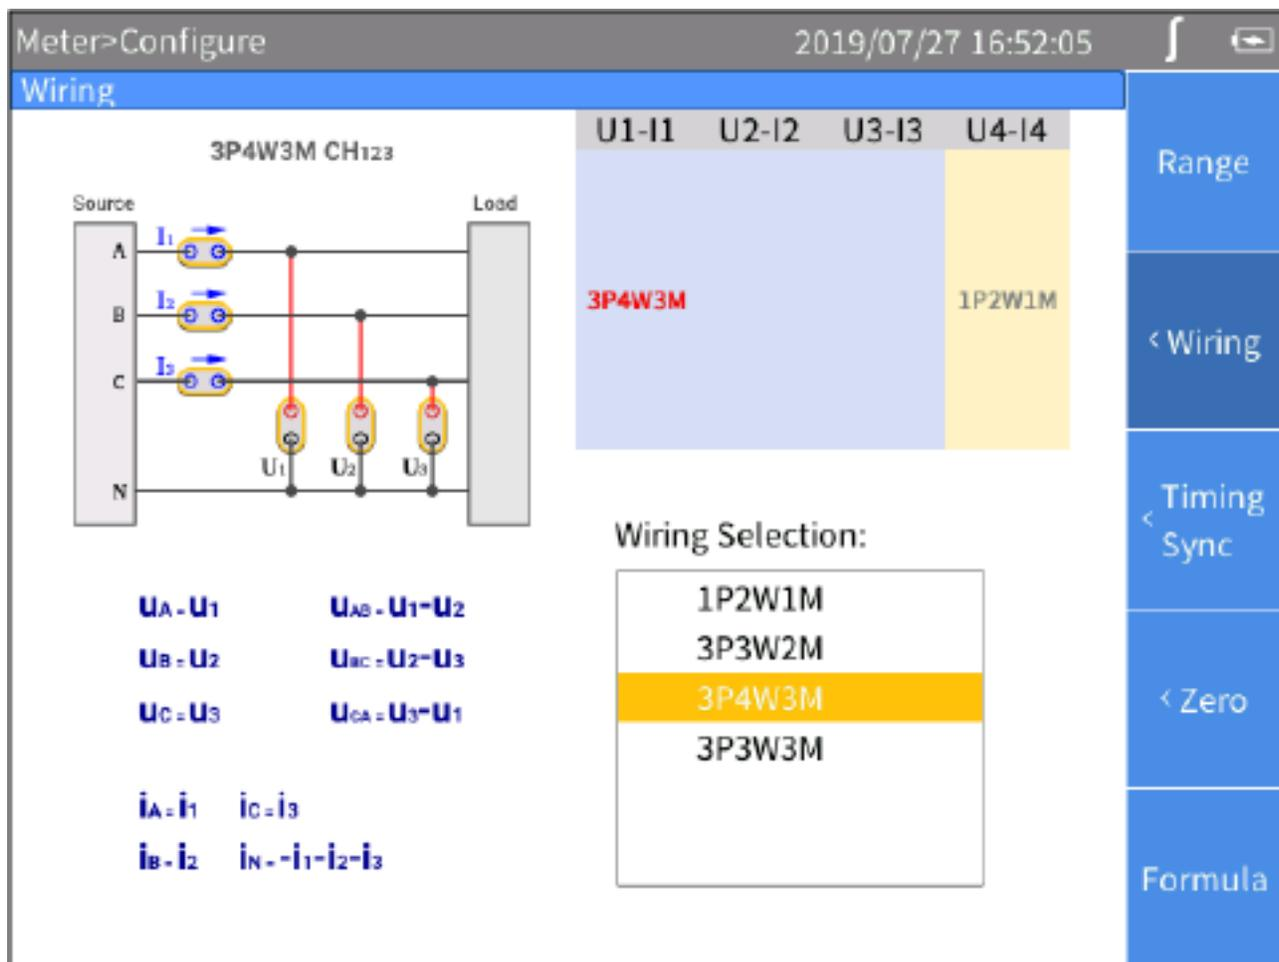

Figure 12. Wiring
2. The Configuration interface of wiring selection is as shown in Figure 12.
1. In the Wiring screen (Figure 12), use the left and right arrow (← →) keys to select a channel or wiring group in “**Channel Configuration**”. The wiring selection of the selected channel/wiring group is highlighted.